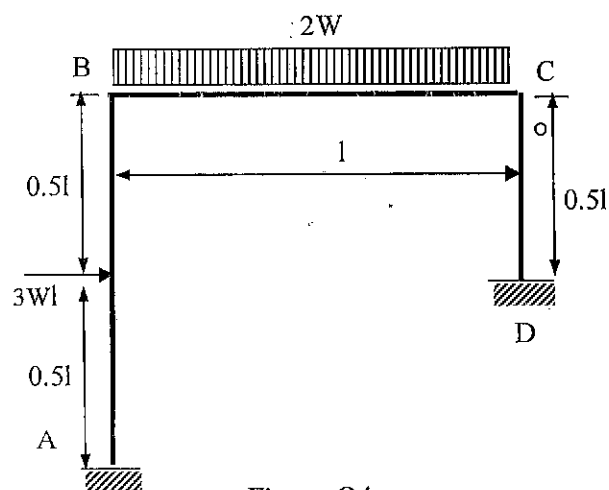

Figure Q4
- A frame structure is shown in Figure Q4. Flexural rigidities of members are same. Find the free nodal displacements at B using the **displacement method**. You can neglect the axial deformation. (10 Marks)